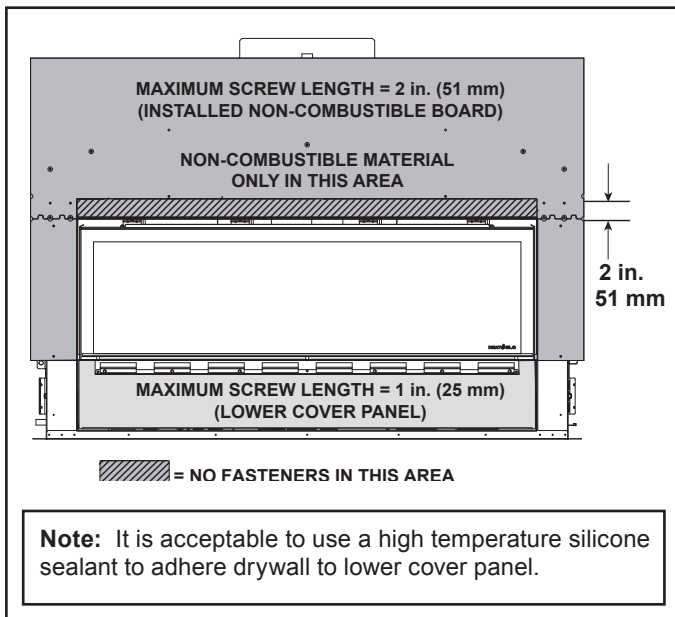

Figure 10.1 Screw Length Requirements
When finishing the wall around the fireplace, it is critical that wall sheathing be fastened properly. Wall sheathing fasteners, such as screws or nails, are not permitted in some locations. See Figure 10.1.
It is acceptable to pre-drill holes and use self-tapped screws in the installed non-combustible board which may be used to lathe (a backer for tile, marble, etc.). Screws being installed through the installed non-combustible board should be self-tapping type with a maximum length of 2 in. (51 mm) See Figure 10.1.
When installing finish material on the lower cover panel, DO NOT drill or install screws longer than one inch. Screws longer than one inch could penetrate the lower cover panel causing damage to components or penetrate the gas line. One inch screws are included in the manual bag assembly that are intended for use when attaching finishing material to lower cover panel. See Figure 10.1.
2. Install finishing material to the top ledge of the bottom access panel, covering the eight rectangle holes in the access panel. See Figure 10.1 for screw length requirements.
3. Install non-combustible finishing material up to the outer edges of the trim ring. See Figure 10.1 for screw length requirements.